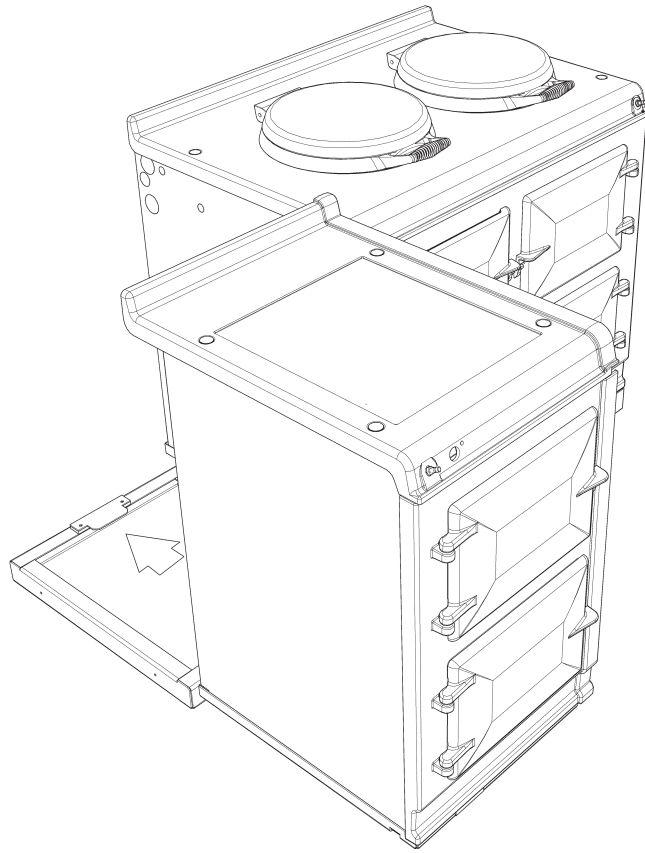

Fig. 17
6. Slide hotcupboard onto plinth until rear tongue bracket engages fully into rear of base slot, (See Fig. 17). Ensure the appliance is aligned squarely with the plinth then proceed to engage the front tongue bracket into the slot on the underside of the base plate. Once satisfied that the front tongue bracket is engaged fully lock it into place by tightening the two M6 screws fully. Ensure that the electrical cable does not come into contact with oven vent pipe from the AGA DC3.